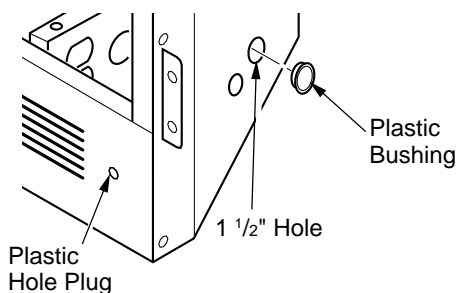

Figure 10 - Installing Plastic Bushing for Power Cord
7. Locate the plastic hole plug installed in the 3/8" diameter opening in the lower right side of the firebox front panel (see Figure 10). Remove the plastic plug and discard.
- a. **If your firebox is installed as a freestanding unit with an accessory mantel,** determine whether the power cord will exit the left side or the right side of the firebox. Install 1 plastic bushing provided into the 1 1/2" hole in the floor support on the exit side. Install the second plastic bushing provided into the 1 1/2" hole in the outer casing through which the power cord will exit (see Figures 10 and 12). Route power cord through both plastic bushings and plug the power cord into a wall receptacle near the firebox.